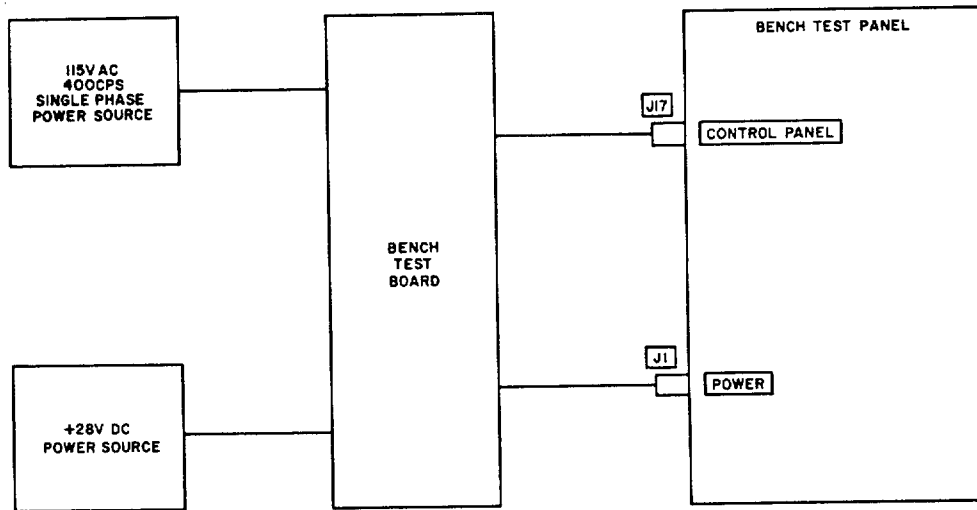

Figure 5-6. CONTROL PANEL TEST position, operational test setup.
(1) Test board
(2) Multimeter.
b. Test Connections and Conditions Connect bench test set to test board as shown in figure 5-6.